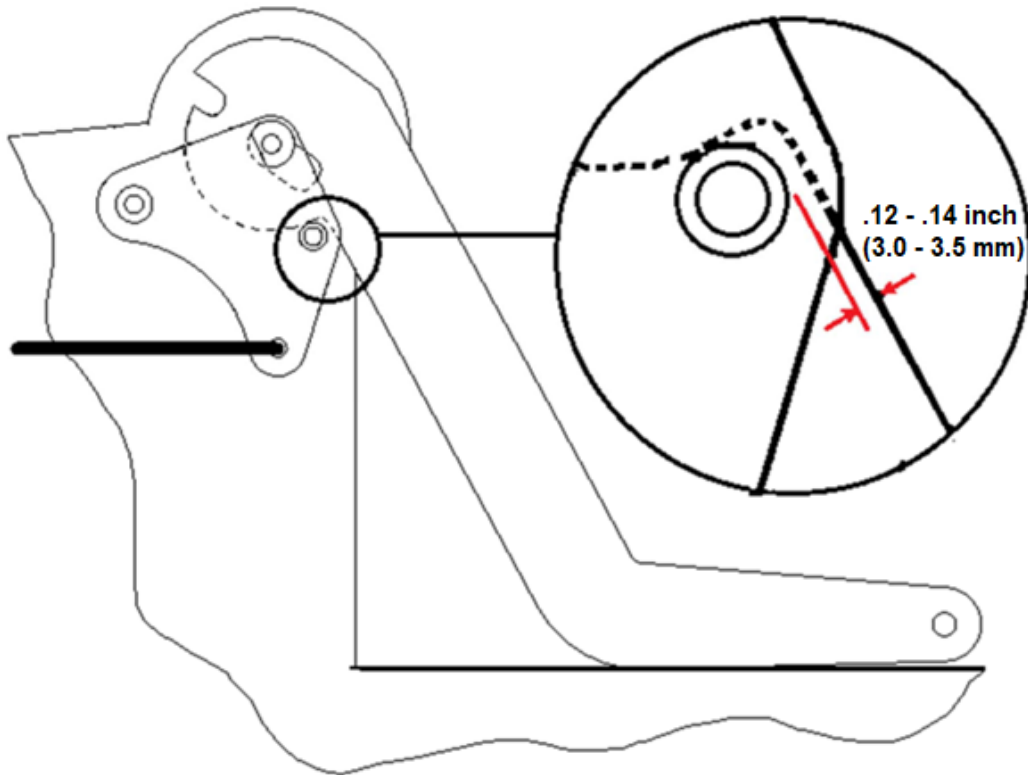

Figure 2. Space Between the Lever and the Roll Pin
This Service Directive Bulletin clarifies the rigging requirements for the clutch handle and provides procedures for ensuring the rigging can be obtained. Revision 1 corrects typographical errors in paragraphs 5.2.1.3 and 5.2.1.5 and Figure 2.
5.2.1.3 Use the shank of a 1/8-inch drill bit or a #30 drill bit to verify there is approximately .125-inch (3.2 mm) space between the clutch lever and the roll pin in the bellcrank (Figure 2).
5.2.1.4 Adjust the turnbuckle (Item 3 in SIL0080 Figure 2-A) as required to obtain clearance.